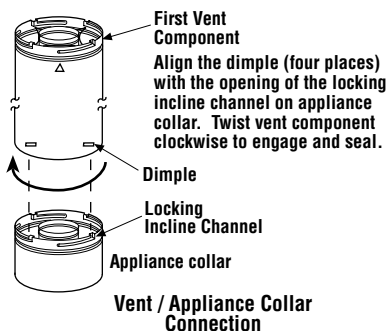

Figure 19
B. Attach vent components to appliance - Secure Vent SV4.5 direct vent system components are unitized concentric pipe components featuring positive twist lock connections (see **Figure 19**).
To attach a vent component to the appliance collar, align the dimpled end over the collar, adjusting the radial alignment until the four locking dimples are aligned with the inlet of the four inclined channels on the collar (refer to **Figure 19**). Push the vent component against the collar until it fully engages, then twist the component clockwise, running the dimples down and along the incline channels until they seat at the end of the channels.
Secure Vent SV4.5 direct vent system components are unitized concentric pipe components featuring positive twist lock connection, (refer to **Figure 19 on page 11**). All of the appliances covered in this document are fitted with collars having locking inclined channels. The dimpled end of the vent components fit over the appliance collar to create the positive twist lock connection.
Analyze the vent routing and determine the types and quantities of sections required 4 1/2" (114 mm), 10 1/2" (267 mm), 22 1/2" (572 mm), 34 1/2" (876 mm) and 46 1/2" (1181 mm) net section lengths are available. Make allowances for elbows as indicated in **Figure 19**.
To attach a vent component to the appliance collar, align the dimpled end over the collar, adjusting the radial alignment until the four locking dimples are aligned with the inlets of the four incline channels on the collar (refer to **Figure 19 on page 11**).